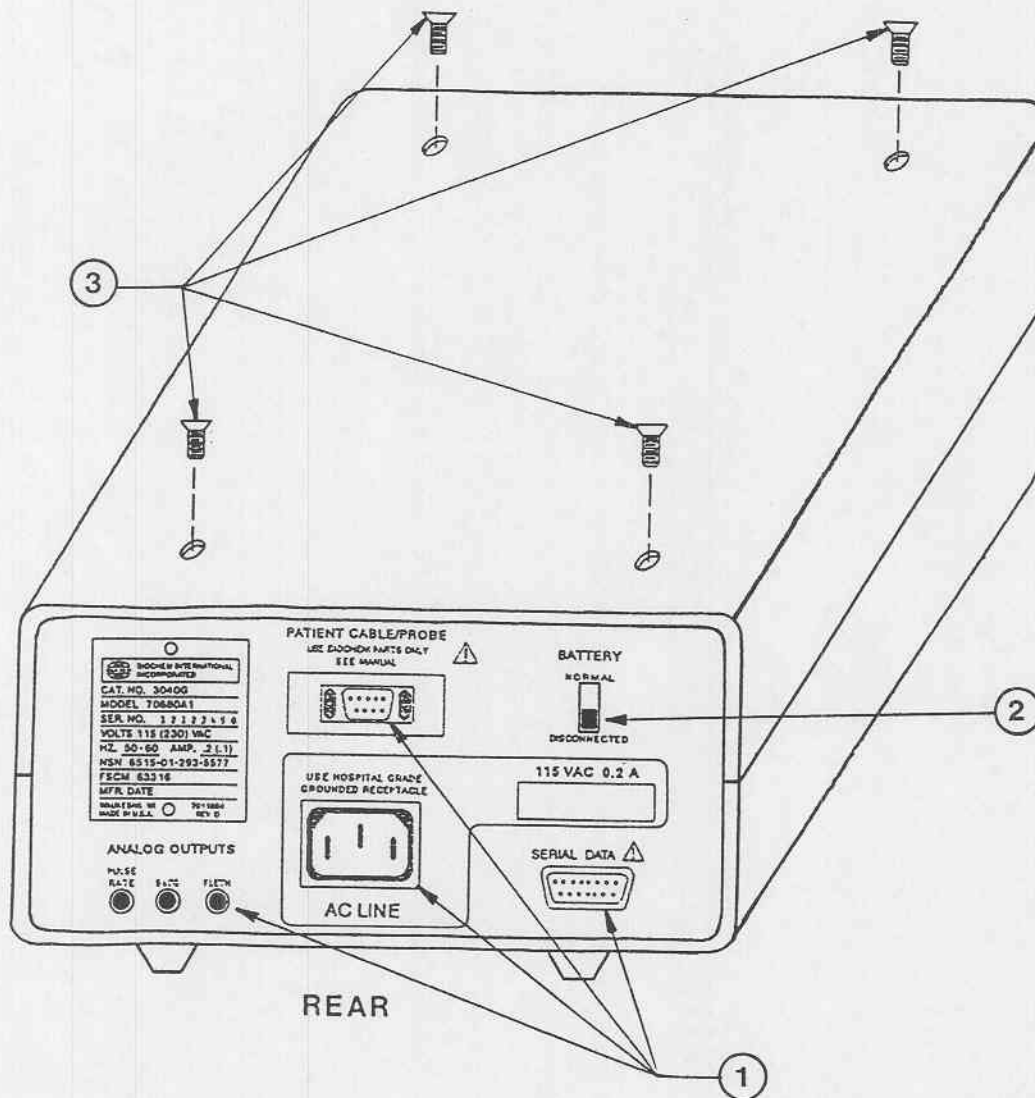

Figure 10. Remove the top cover.
1. Refer to Figure 10. Disconnect the AC Line Cord, the Patient Cable or Probe, and any other cables connected to the rear of the unit.
2. Refer to Figure 10. Set the "BATTERY" switch to "DISCONNECTED".
3. Refer to Figure 10. Remove the four top cover screws with a 5/64" allen head wrench. Lift the top cover from the unit.